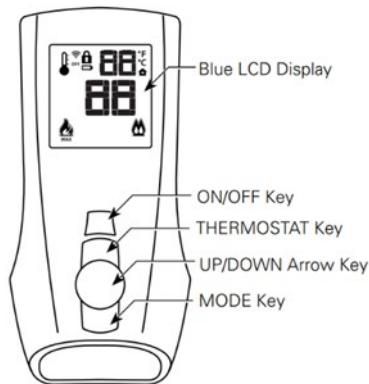

FIGURE 42
1. Insert the three (3) provided AAA batteries into the battery bay in the remote. Correctly align polarity (+/-).
3. Push the "ON" button on the remote (**Figure 42**). The control module will beep four (4) times to indicate acceptance of the remote's command. The system is now synchronized.
With the system in the “OFF” position, press the Thermostat Key and the Mode Key at the same time (Figure 42). Look at the LCD screen on the Remote to verify that a C or F is visible to the right of the Room Temperature display (Figure 44).
The default setting is set to IPI. With the system in OFF position press the Mode Key (Figure 42) to index to the CPI mode icon. Pressing the UP Arrow Key will return to IPI. A single “beep” will confirm the reception of the command (Figure 46).